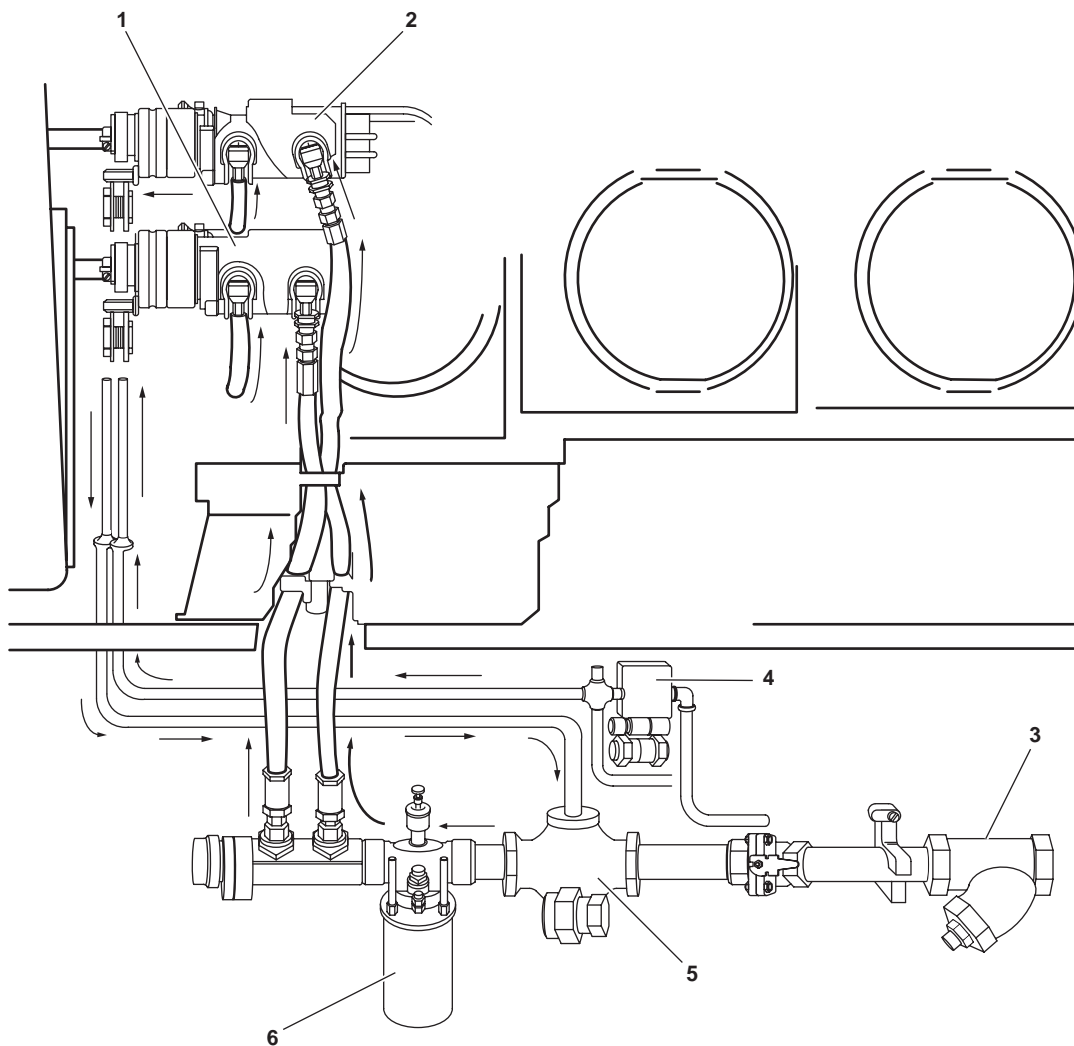

Figure 3. Engine Air Starting System
The engine air starting system consists of a lower air starting motor (figure 3, item 1), an upper air starting motor (figure 3, item 2), a strainer (figure 3, item 3), a solenoid valve (figure 3, item 4), an air start valve (figure 3, item 5), an air line lubricator (figure 3, item 6), a shutoff valve, and the start button. Compressed air at 200 PSI (14 bar) is supplied from the vessel's starting air system. When the start button is pushed, the solenoid valve is energized (to the OPEN position), allowing air from the starting air system to pass through the solenoid valve and strainer to the pinion gear area of the lower starting motor (figure 3, item 1). A throttle interlock prevents starting of the engine if the throttle is not in the NEUTRAL position. The air entering the pinion gear area moves the pinion gear forward to engage with the engine ring gear. Movement of the pinion gear uncovers a port, allowing air pressure to enter the upper starting motor (figure 3, item 2) which, in turn, engages its pinion gear with the ring gear. With the pinion gears now engaged, air is released from the uncovered port in the upper motor. In addition to maintaining gear engagement, the air opens the air start valve, releasing the main starting air supply. Air passes through the air start valve and into a flexible hose assembly connected to each air starting motor. The multivane motors drive the pinion gears, rotating the ring gear, cranking the engine.